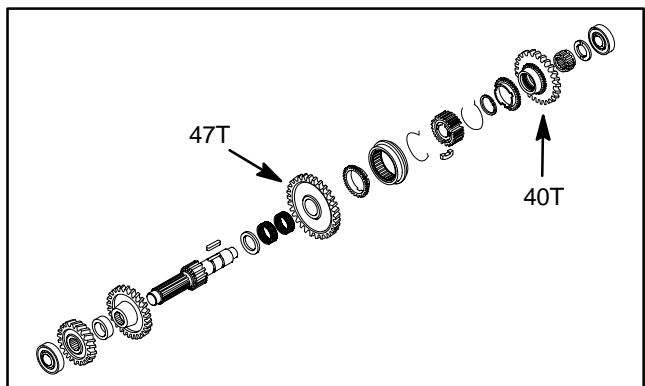

Figure 60
- D. Inspect I.D. of synchro gears on reduction shaft for excessive wear or scoring (Fig. 60). If synchro gear has the following I.D., replace the synchro gear: